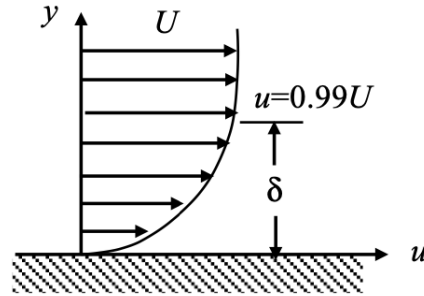

FIGURE 9.2. A schematic illustrating the 99% boundary layer thickness definition.
- (1) *99% boundary layer thickness, δ or $\delta_{99\%}$.* This thickness definition is the most commonly used definition. The boundary layer thickness, δ , is defined as the distance from the boundary at which the fluid velocity, u , is 99% that of the outer velocity, U (Figure 9.2),